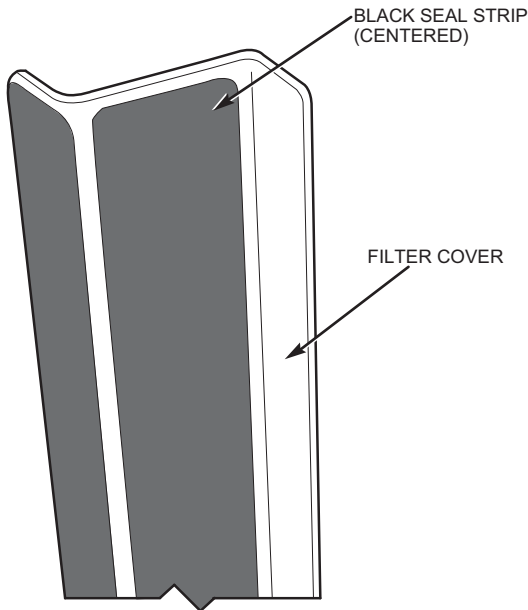

Fig. 33 — Attaching Seal Strip to Filter Cover
14. Attach black seal strip (provided) to filter cover. Seal strip should be applied centered over the holes of the one flange, making sure to fully cover holes and center over the other large flange. See Fig. 33 for location of black seal strip and cover.